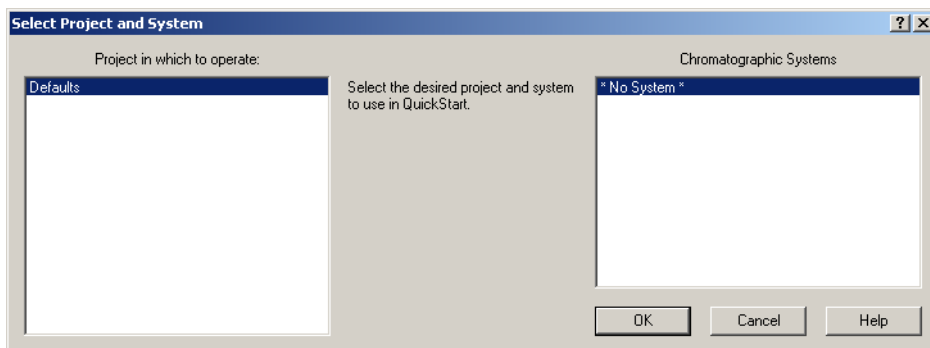

Figure 3-3 Select Project and System Dialog Box
- Unless a Waters Service Engineer has configured a system for you, the Select Project and System dialog box appears (Figure 3-3). Click **OK** to start the QuickStart interface.